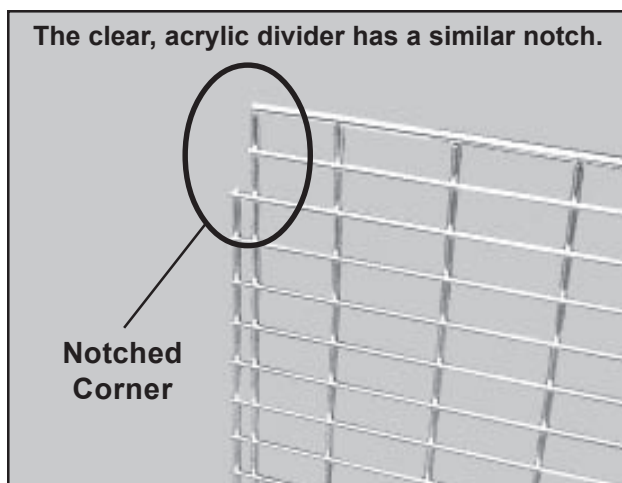

Figure 90. Notched Corner on the Wire Grill Divider Panel.
1. Orient the divider panel so that the notched corner is on top and toward the front (Figure 90).